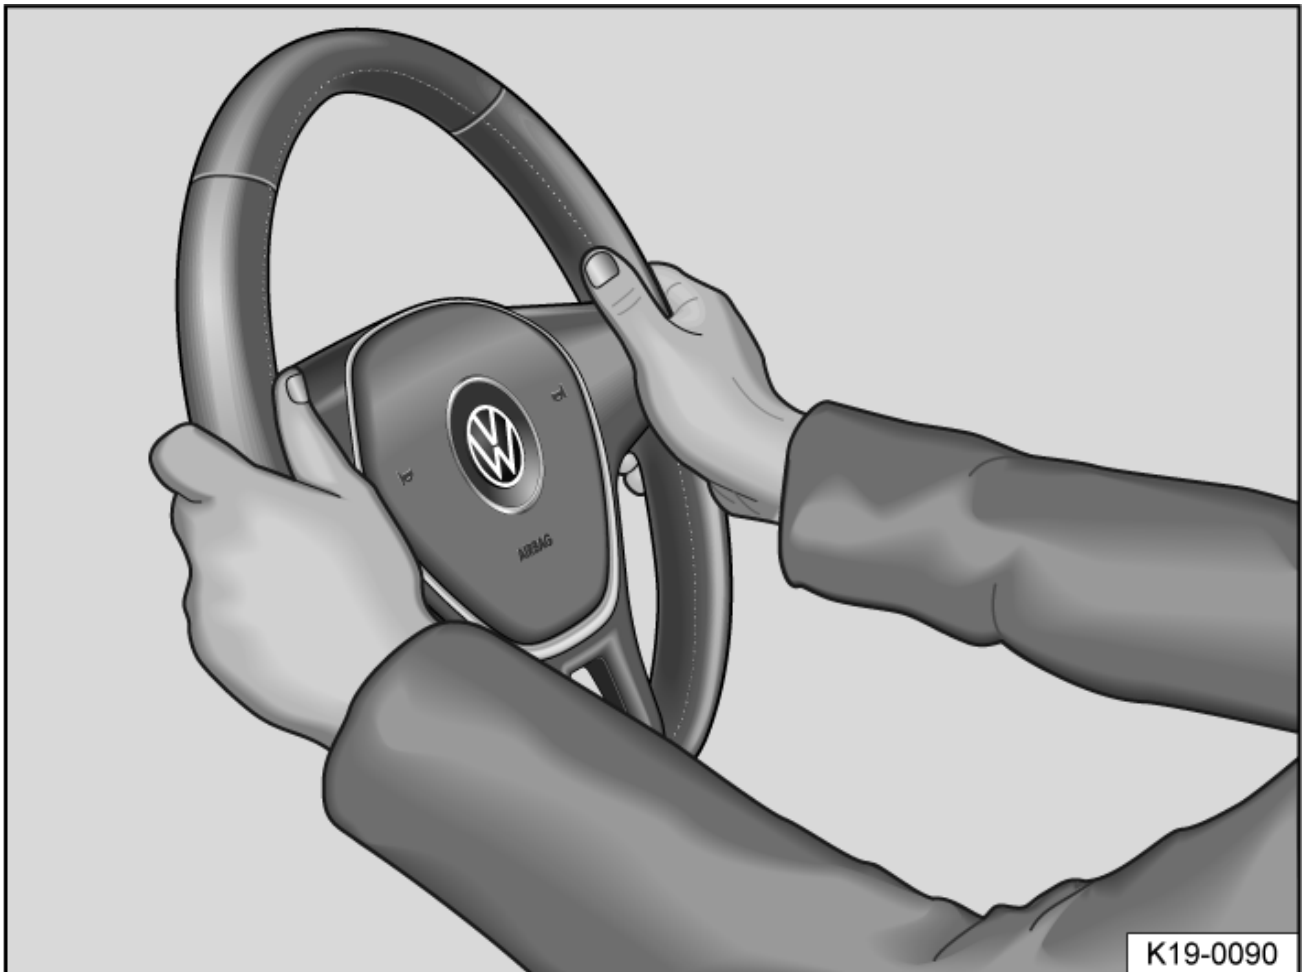

Fig. 2 On the steering wheel: nine o'clock and three o'clock position.
—Adjust the steering wheel so that it can be firmly held at the outer edge with both hands at the *nine o'clock and three o'clock position* → fig. 2.
- To reduce the risk of injuries if the driver's front airbag deploys, always hold the outer edge of the steering wheel firmly with both hands in the *nine o'clock and three o'clock position* → fig. 2.